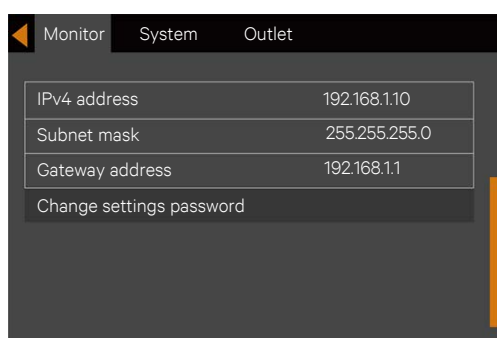

Figure 5-21 Changing settings password
2. Press the  key, then press the  key to select the 'Change settings password', see Figure 5-21.